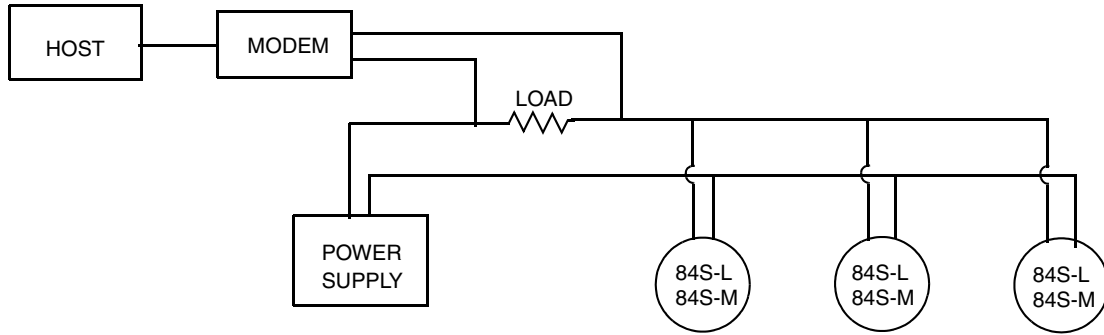

Figure 19. Typical Multidrop Network
Figure 19 shows a typical multidrop network. Do not use this figure as an installation diagram. Contact the HART Communications Foundation, (512) 794-0369, with specific requirements for multidrop applications.